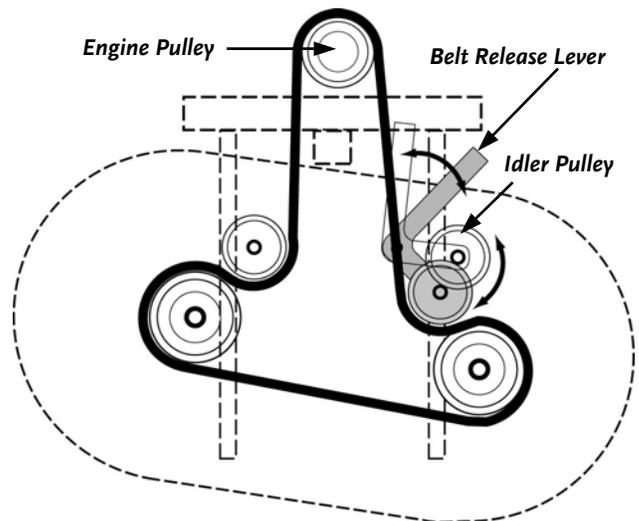

Figure 7
Your Lawn Deck shipped with the Belt in place on the two Blade Drive Pulleys. However, occasionally the Belt comes off during shipping. If this occurs, remove the two smaller Belt Covers with a 7/16" Wrench or Socket and place the Belt back on the Pulleys as shown in **Figure 7**. See **To Replace the Deck Belt** on page 30.
4. Mount the Belt on the Engine Pulley. If necessary, place the Belt around the other Pulleys as shown in **Figure 7** except for the Pulley attached to the Belt Release Lever.
5. Push the Belt Release Lever and set the outside of the Belt against the flat Idler Pulley on the Release Lever (**Figure 7**).